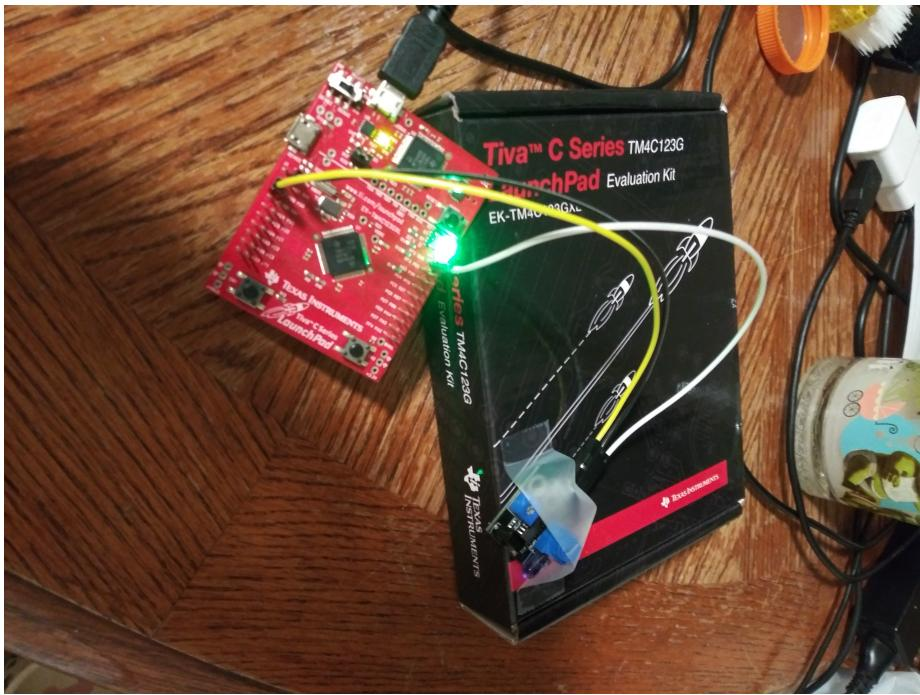

Figure 2: Image of system running.
- The Figure 2 is an image of the system.